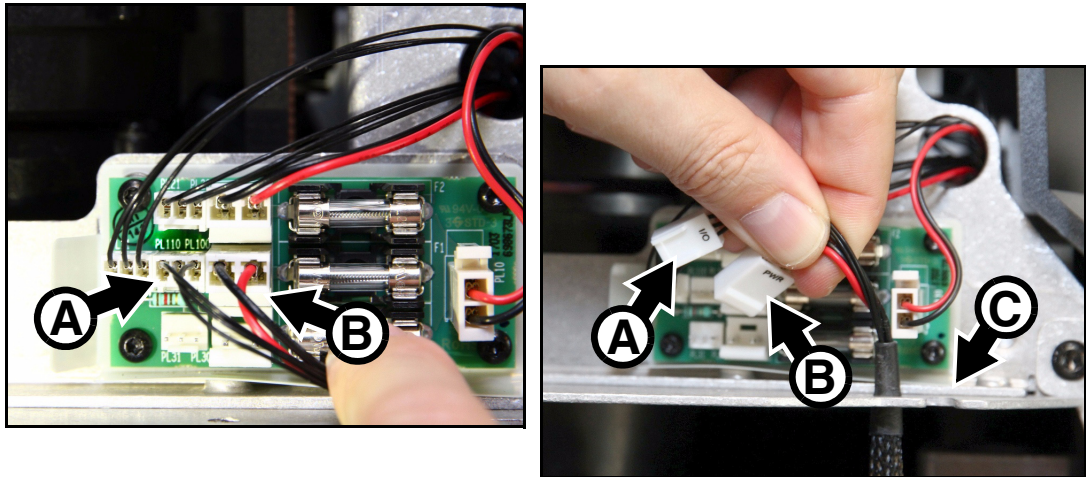

Figure 10: Disconnecting the multi-module
2. See Figure 10. Unplug the multi-module’s data I/O plug **A** and power plug **B** from positions PL 100 and PL 110 on the distribution PCB, and unhook the multi-module wireset from its cutout **C** in the head chassis.